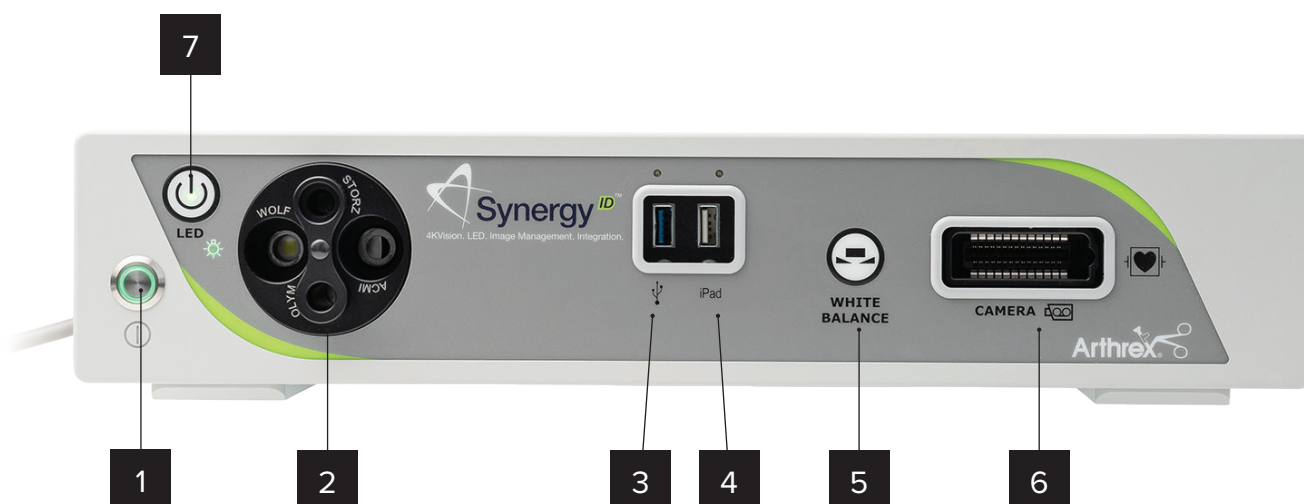

Figure 1 – Synergy^{ID} CCU Front Panel
3. Inserting an incompatible camera head into the camera receptacle (see Figure 1) can result in damage to the CCU.
**WARNING: Inserting an incompatible camera head into the camera receptacle (see Figure 1) can result in damage to the CCU.**